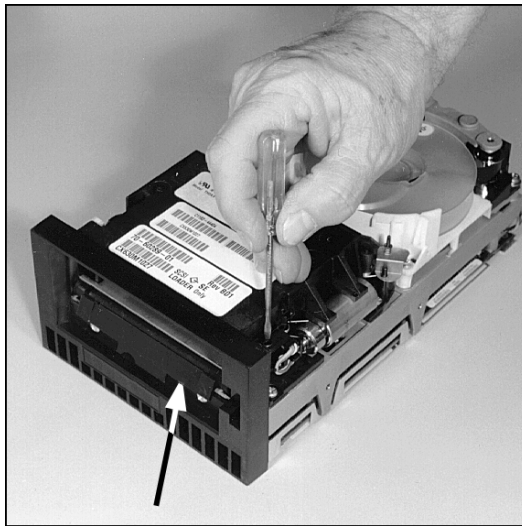

Figure 5-58. Opening the Tape Drive Door
5. When the tape is fully rewound (check to see that no tape is dangling from the cartridge), push in on the spring-loaded solenoid release located on the right front of the drive and, at the same time, slowly lift the handle beneath the tape cartridge door (see arrow on Figure 5-58).
4. Manually eject the tape. See Figure 5-58.